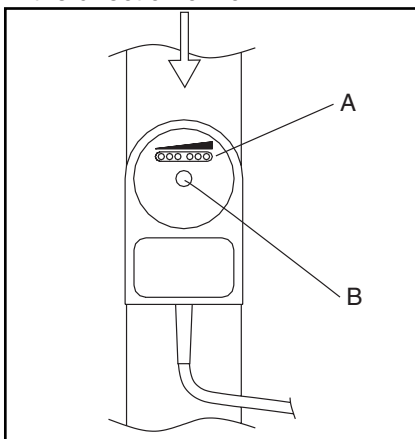

Fig. 9
N.B. Check that the flow switch is correctly fitted, see Fig. 9. The flow switch should be placed parallel to the pipe so that the cable emerges in the direction of flow.
Maintenance-free. See section 3 and Fig. 9.
4. Unscrew nylon screw B (Fig. 9).
5. Check that the flow switch is turned the correct way (see Fig. 9).